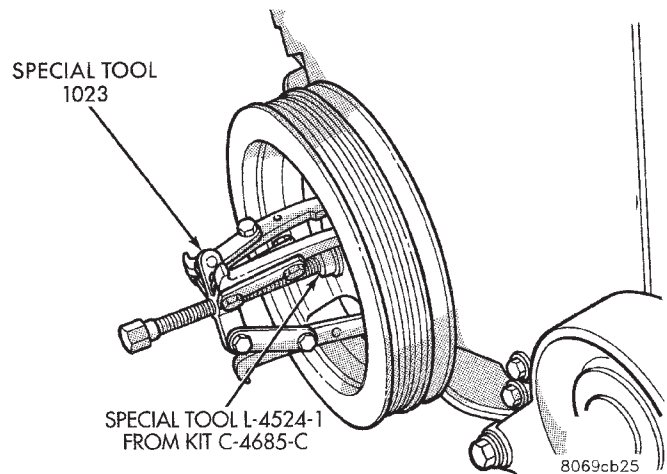
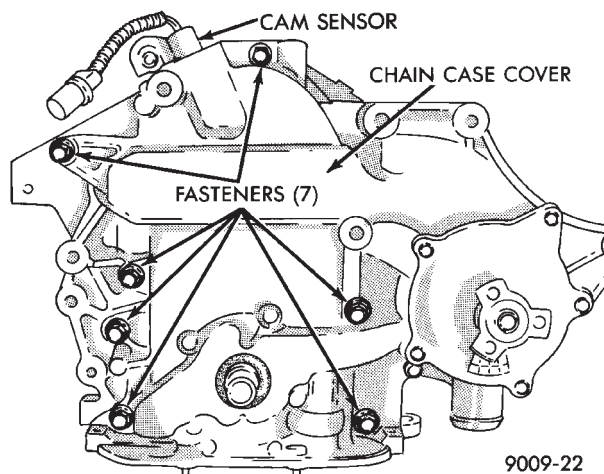

Fig. 1 Removing Crankshaft Damper
Fig. 2 Timing Chain Case Cover
(1) Disconnect battery. Remove fan module.
(2) Drain cooling system. Refer to Cooling System Group 7 for procedure.
(3) Raise vehicle on hoist. Drain engine oil.
(4) Disconnect the sway bar and place it to the rear of the vehicle to gain access to the oil pan.
(5) Remove the transmission supports brackets and inspection cover.
(6) Remove oil pan and oil pump pick-up.
(7) Remove drive belt. Refer to Cooling System Group 7 for procedure.
(8) Remove power steering pump and set aside.
(9) Remove crankshaft damper (Fig. 1).
(10) Remove tensioner pulley bracket.
(11) Remove cam sensor from chain case cover (Fig. 2).
(12) Remove chain case cover (Fig. 2).